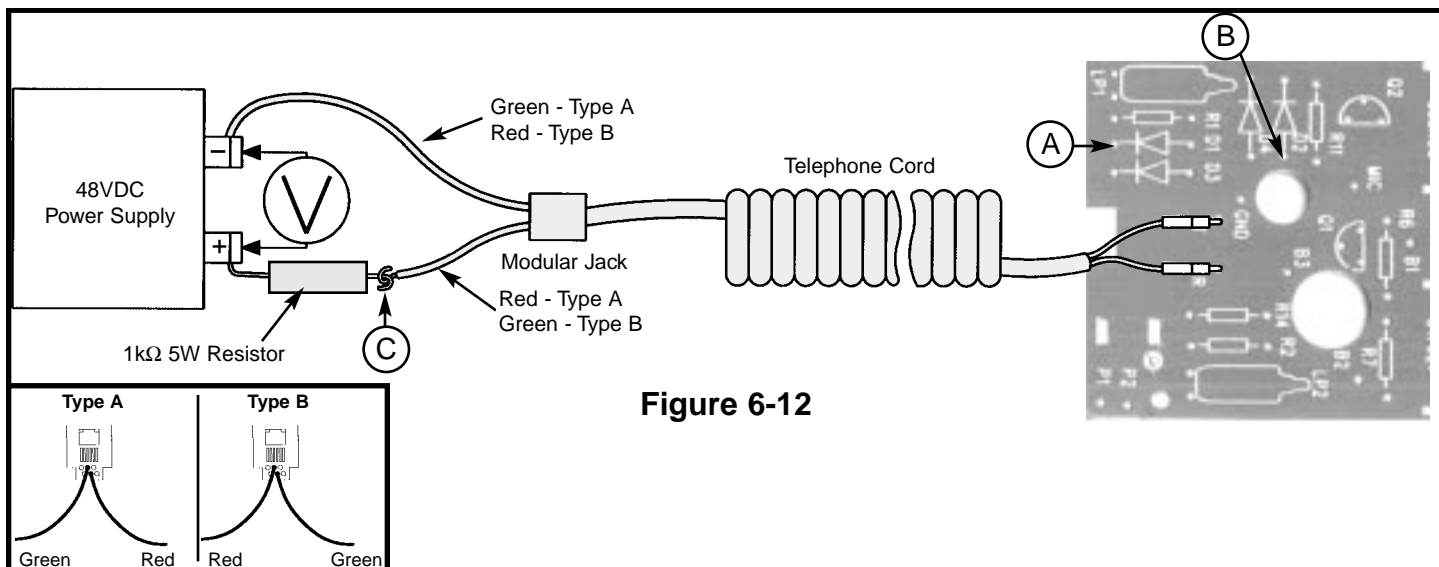

Figure 6-12
Before completing the assembly, we will want to power up and test the Transmit-Receive Section. See Figure 6-12 for these tests.
2. Solder one side of the 1kΩ 5W resistor to the wire from the modular jack as shown in figure 6-12
3. Connect the other side of the resistor and the other wire from the modular jack to the 48VDC power supply as shown in Figure 6-12.
5. Set the voltmeter to read 48VDC and connect as shown in the Figure 6-12. Position the PC board so that the telephone is off the hook (hook switch not depressed). Turn the power supply ON and adjust it for 48VDC on the meter.
7. To obtain the voltage across the diode bridge, connect the positive voltmeter lead to the cathode of D1 (point A in Figure 6-12) and the negative voltmeter lead to the anode of D2 (point B in the figure). Record the Output Voltage: _____
13. To measure the output voltage of the diode bridge, connect the positive voltmeter lead to the cathode of D1 (point A in Figure 6-12) and the negative voltmeter lead to the anode of D2 (point B in Figure 6-12). Record the Output Voltage: _____